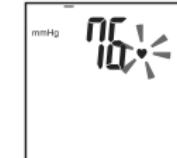

Fig.10
4. Pulse Symbol «» is displayed as pulse is detected (fig.10).